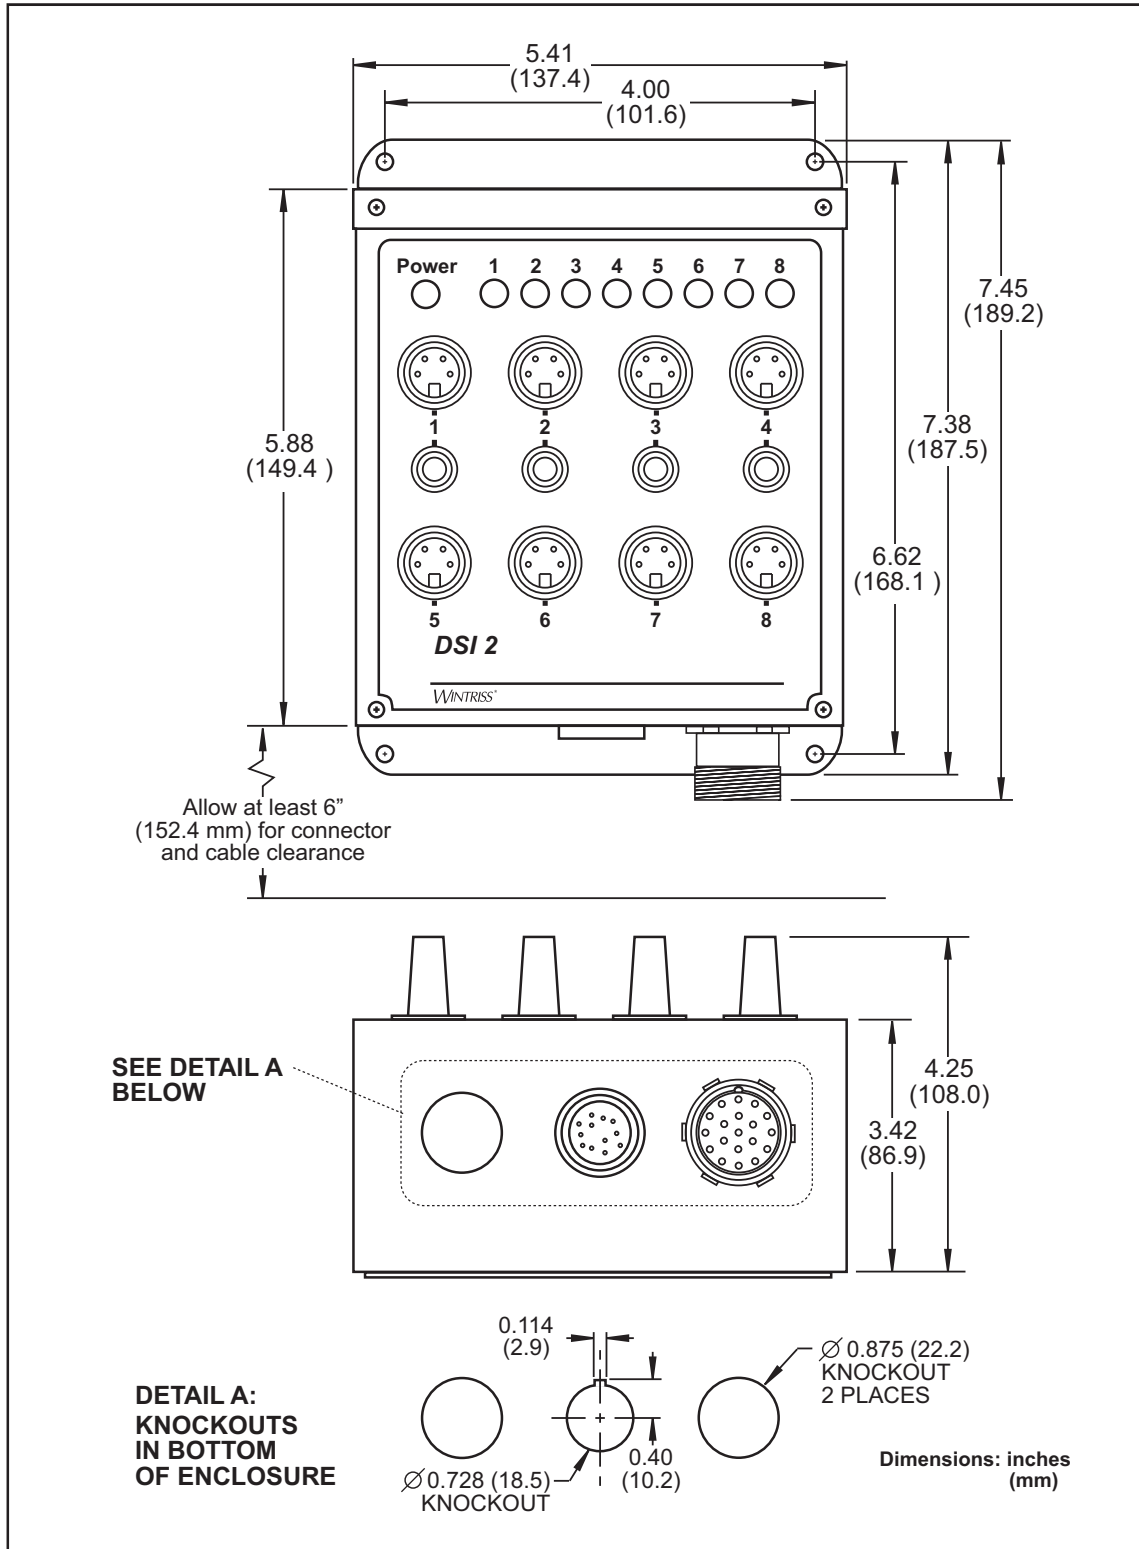
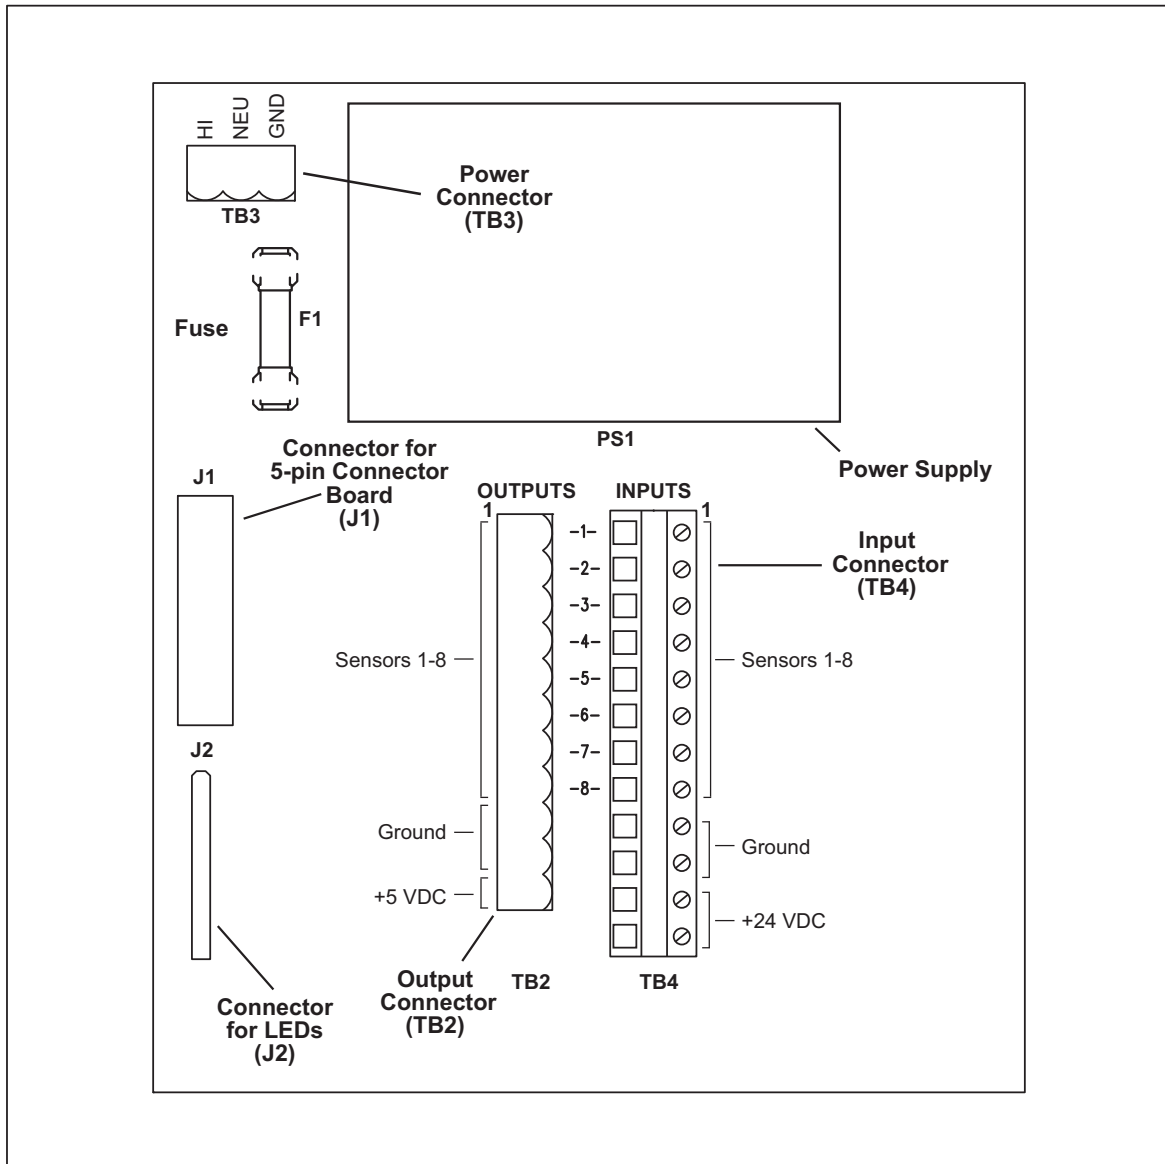

Figure 2-1. DSI 2 8-Input Enclosure: Mounting Dimensions
Figure 2-2. DSI 2 PC Board: Location of Components
To mount the enclosure, perform the following steps, referring to Figure 2-1 for mounting dimensions and Figure 2-2, page 2-3 for location of components on the DSI 2 PC board:
3. Disconnect the two ribbon cables that connect the cover to the PC board (at J1 and J2 in Figure 2-2).
3. Locate terminal block TB3 at the upper left of the DSI 2 PC board (see Figure 2-2).
An output cable that supplies sensor signals to your die protection control is provided with DSI 2. You connect the cable to terminal strip TB2 on the DSI 2 PC board (see Figure 2-2).